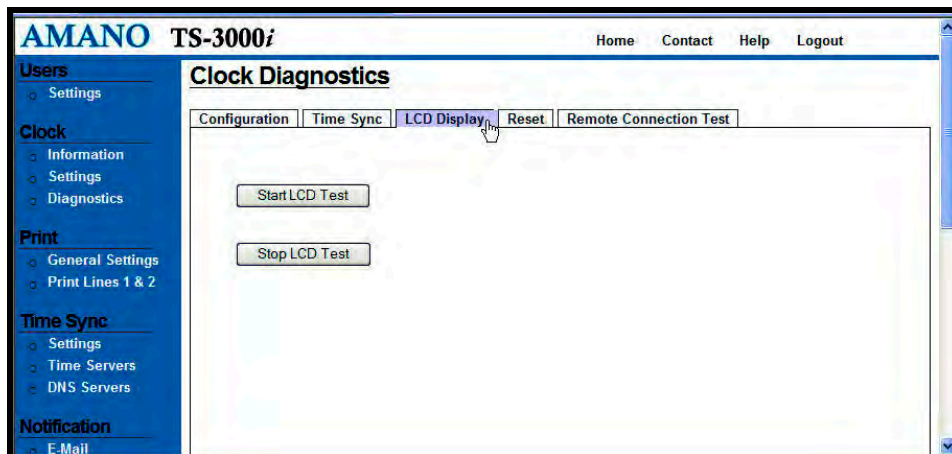

Figure 7-3: LCD Display Clock Diagnostics
Step 1. Click on the **Diagnostics** link under **Clock**, and the **Clock Diagnostics** screen will appear. Then click on the **LCD Display** tab and the LCD Display screen will appear (see *Figure 7-3*).